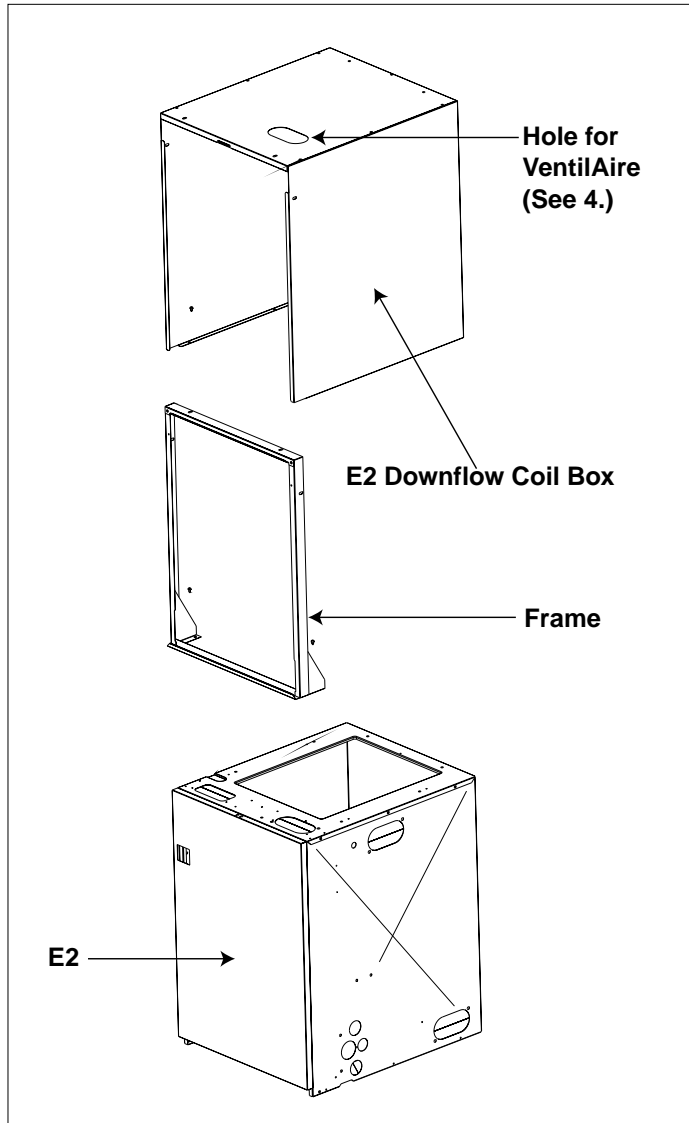

Figure 1. Coil Cabinet
1. After securing the furnace as stated in its installation instructions, position coil cabinet as shown in Figure 1. If the return air grille and frame are already mounted on the furnace, remove them before installing the coil box.
5. Place the frame (see Figure 1) on top of the furnace but over the outside of the E2 coil box. Install two screws on each side to hold the frame and coil box onto the furnace. On each side one screw will go through both the frame and the coil box and one screw will go through just the frame. Additional screws may be used to secure the coil box to the furnace but are not required.